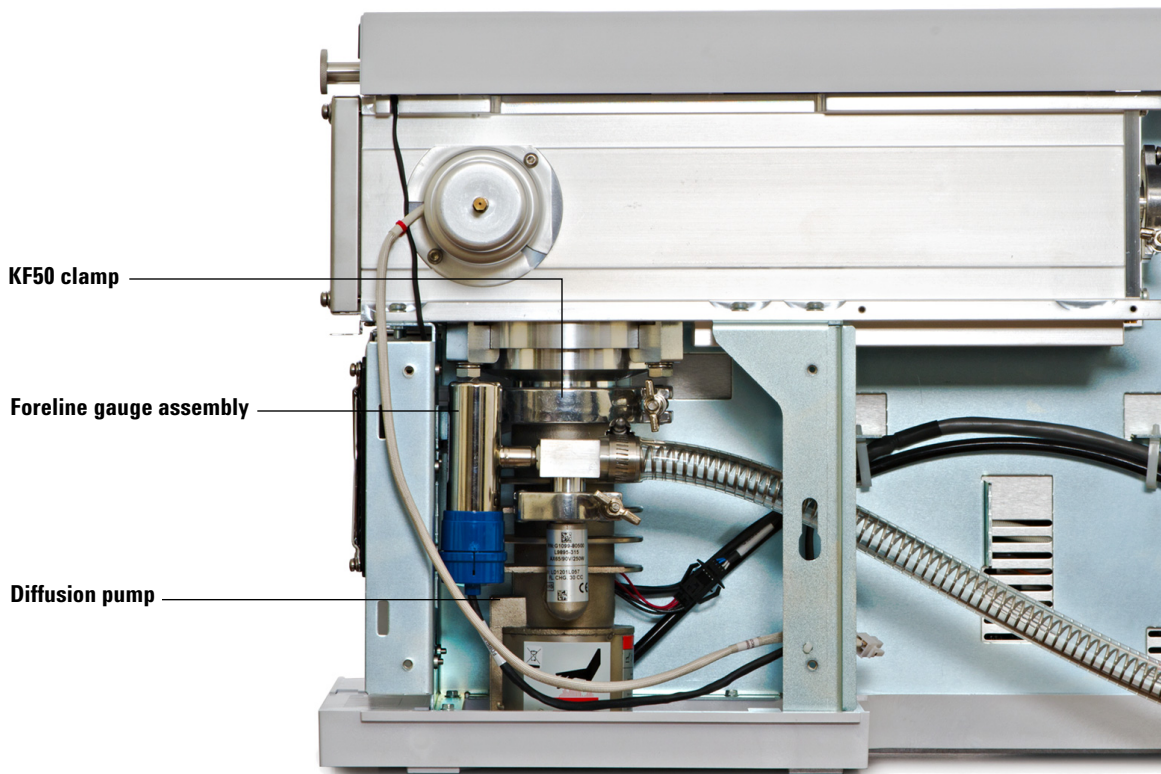

Figure 12 Removing the diffusion pump
- 6 Remove the KF50 clamp. See Figure 12.